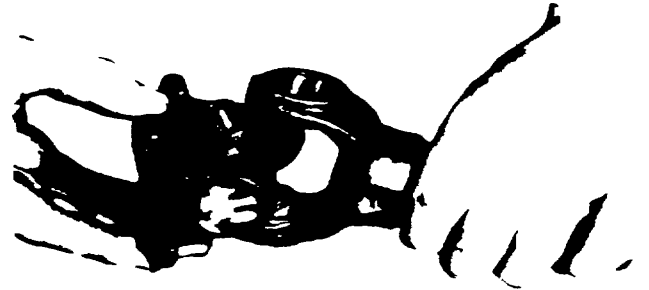

Fig. 26
4. **JOURNAL CROSS** - Remove by sliding it to the side of the yoke and tilting it over the top of the yoke lug (Fig. 26).